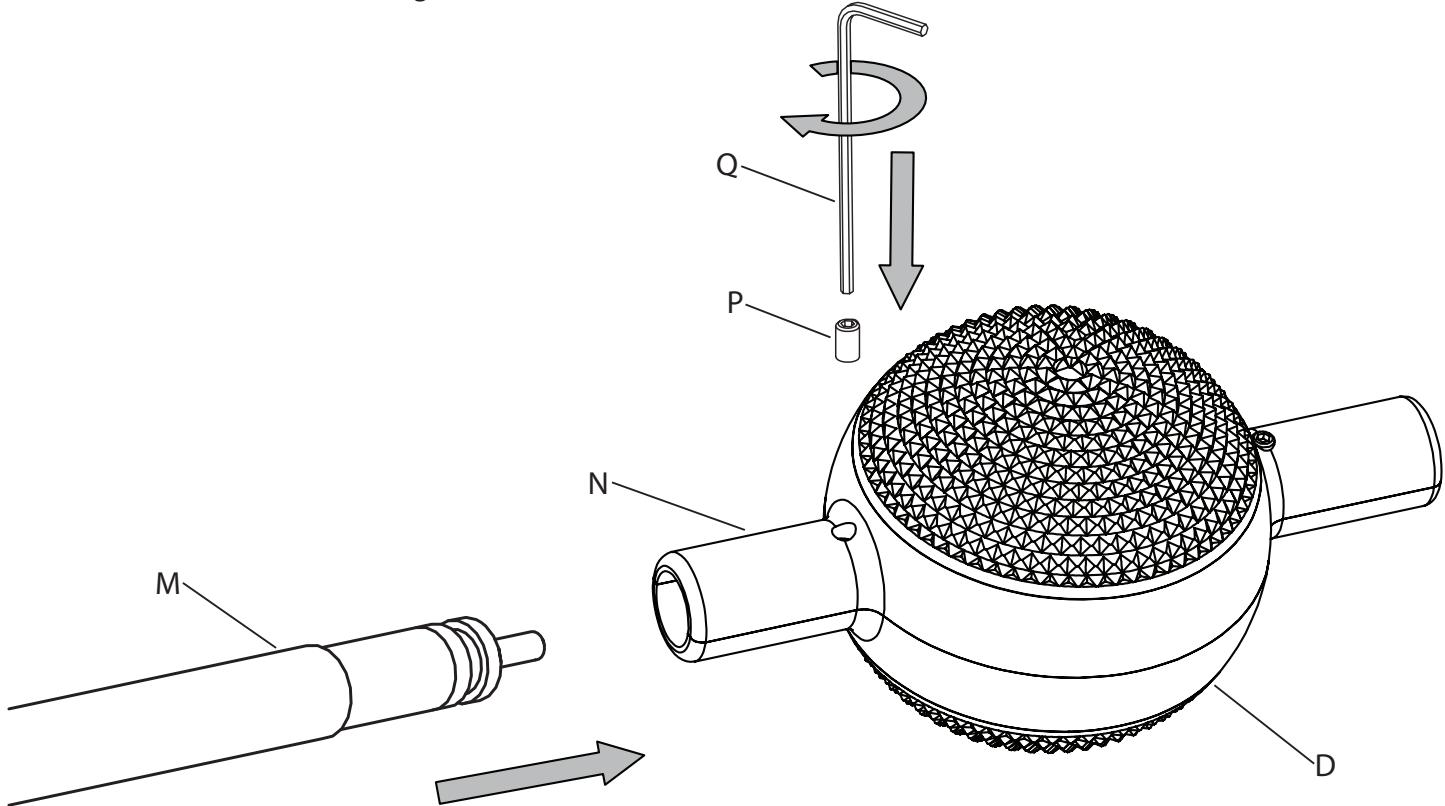

Fig. 2
Attach a Universal Hub (D) to the end of each Power Feed Cord (M) by fully inserting the Cord into a Neck (N) on the Hub (Fig. 2) and installing the M2 Set Screw (P) into the Neck (N) of the Hub, using the Small Hex Wrench (Q) provided, and tightening until it comes in contact with the plastic cap on the Arm. Use the following pages for Installation Patterns. **CAUTION: Do not over tighten the set screws.**